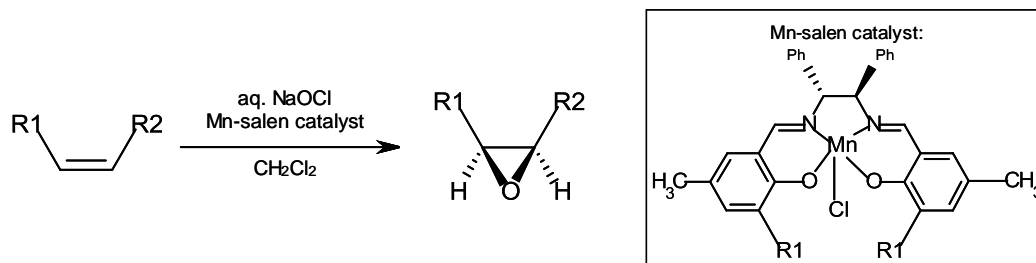

Figure 5: Epoxidation of alkenes with sodium hypochlorite using a Mn-salen catalyst (e.g. Jacobsen's catalyst)²
- Epoxidation using a Mn-salen catalyst and hypochlorite solution (see Figure 5)
In 1991, Jacobsen *et al.* published details of their epoxidation catalysts based on chiral Schiff base ligands around a manganese centre (Figure 5).² When used in the presence of sodium hypochlorite (bleach), these catalysts have been shown to efficiently transform a wide range of alkene substrates in high yields, and enantiomeric excesses in the region of 90 %.